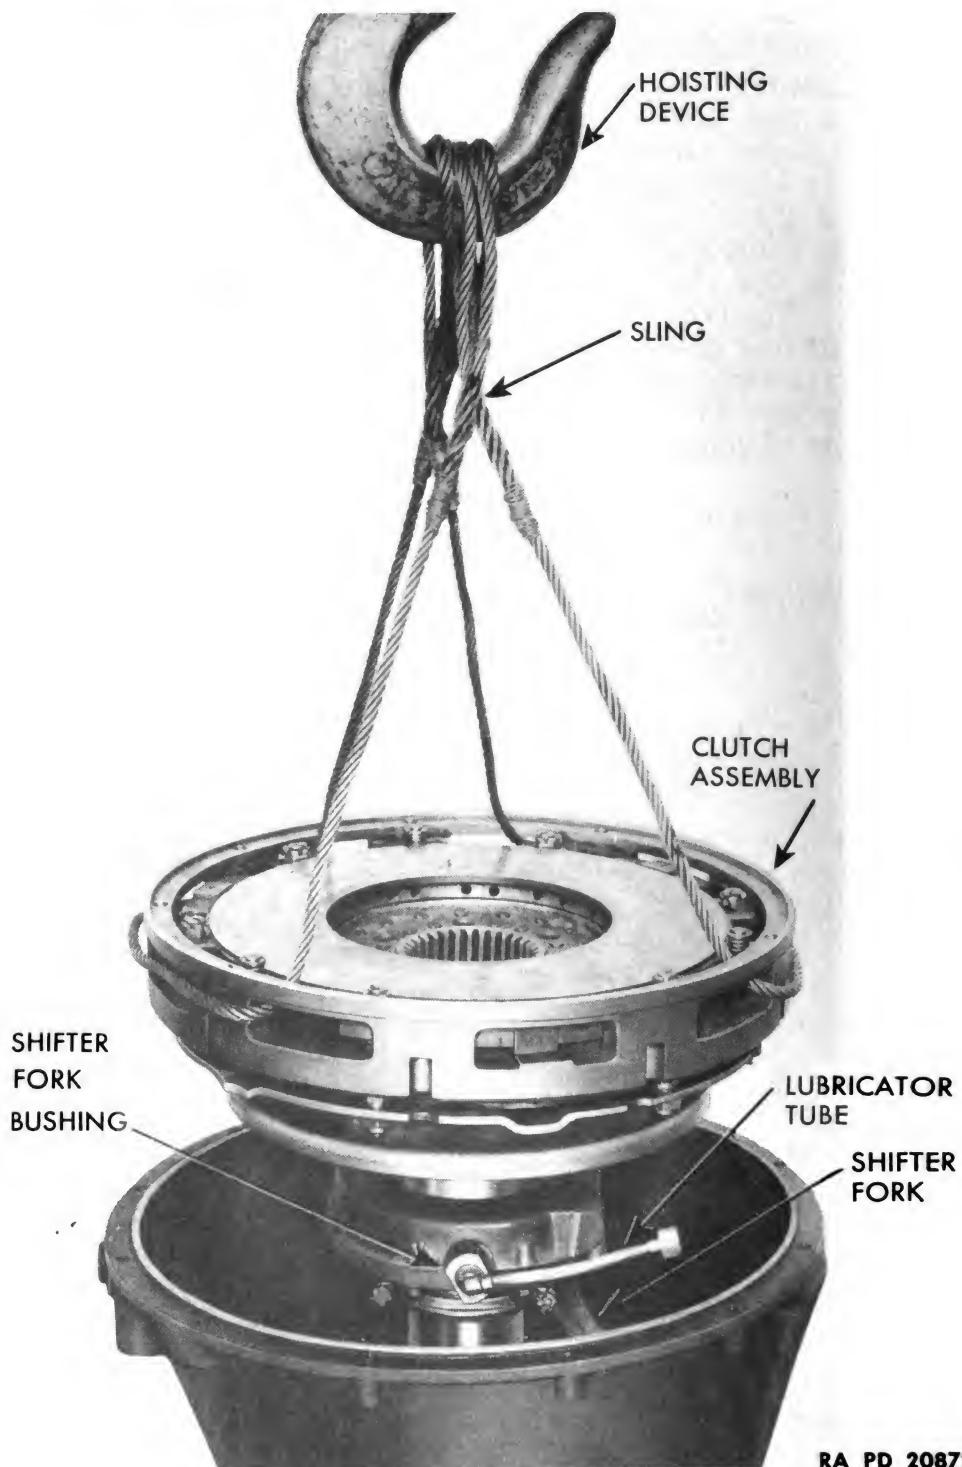

Figure 142 — Removing Clutch from Clutch Housing
(23) REMOVE CLUTCH FROM CLUTCH HOUSING. Set clutch reduction unit on its front end, and block it securely to prevent unit from tipping. Using a wire rope sling and hoising device (fig. 142), partially lift clutch assembly out of housing so that clutch release bearing lubricator tube (fig. 143) can be disconnected from fitting in shifting lever shaft. Line up splines on low-range drive shaft with those on high-range drive shaft, and lift clutch assembly from housing.
a. Install Clutch Assembly in Clutch Housing (fig. 142). Set clutch housing on front end and block securely. Hitch a sling through slots in side of clutch back plate, and attach sling to hoisting device. Lift clutch over clutch housing, and lower it onto clutch range drive shafts. Work clutch driven plates onto splines of range drive shafts, and at same time line up shifter fork bushings with shifter fork. Before clutch is lowered all the way down, connect lubricator tube to fitting on shifting shaft, and tighten two cap screws and lock washers clamping shifter fork to shifting shaft. Lower clutch assembly into position, and remove sling. Place rear driven plate on high-range drive shaft with slinger facing out.